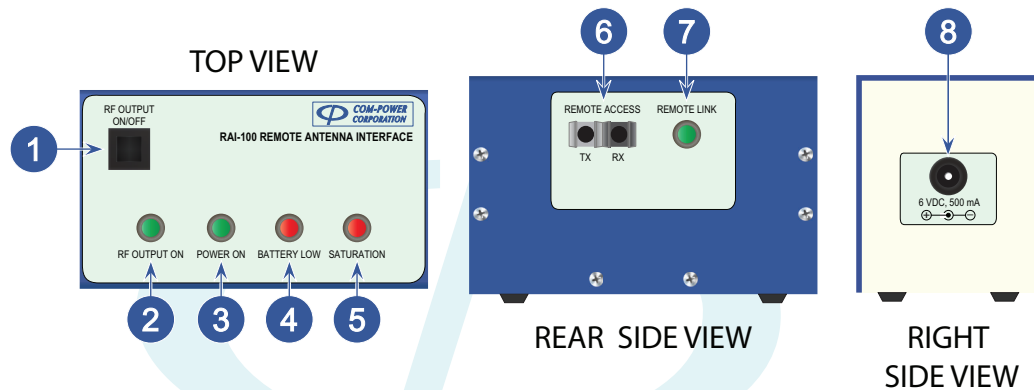

FIGURE 4 - RAI-100 Connections/Controls Indicators
- 2) INSERTION LOSS MEASUREMENTS **(I)** - Without changing any equipment settings, and with the equipment set up as shown in Figure 4, measure and record the signal level (*in dBμV*) at the same frequencies used in Step 1.